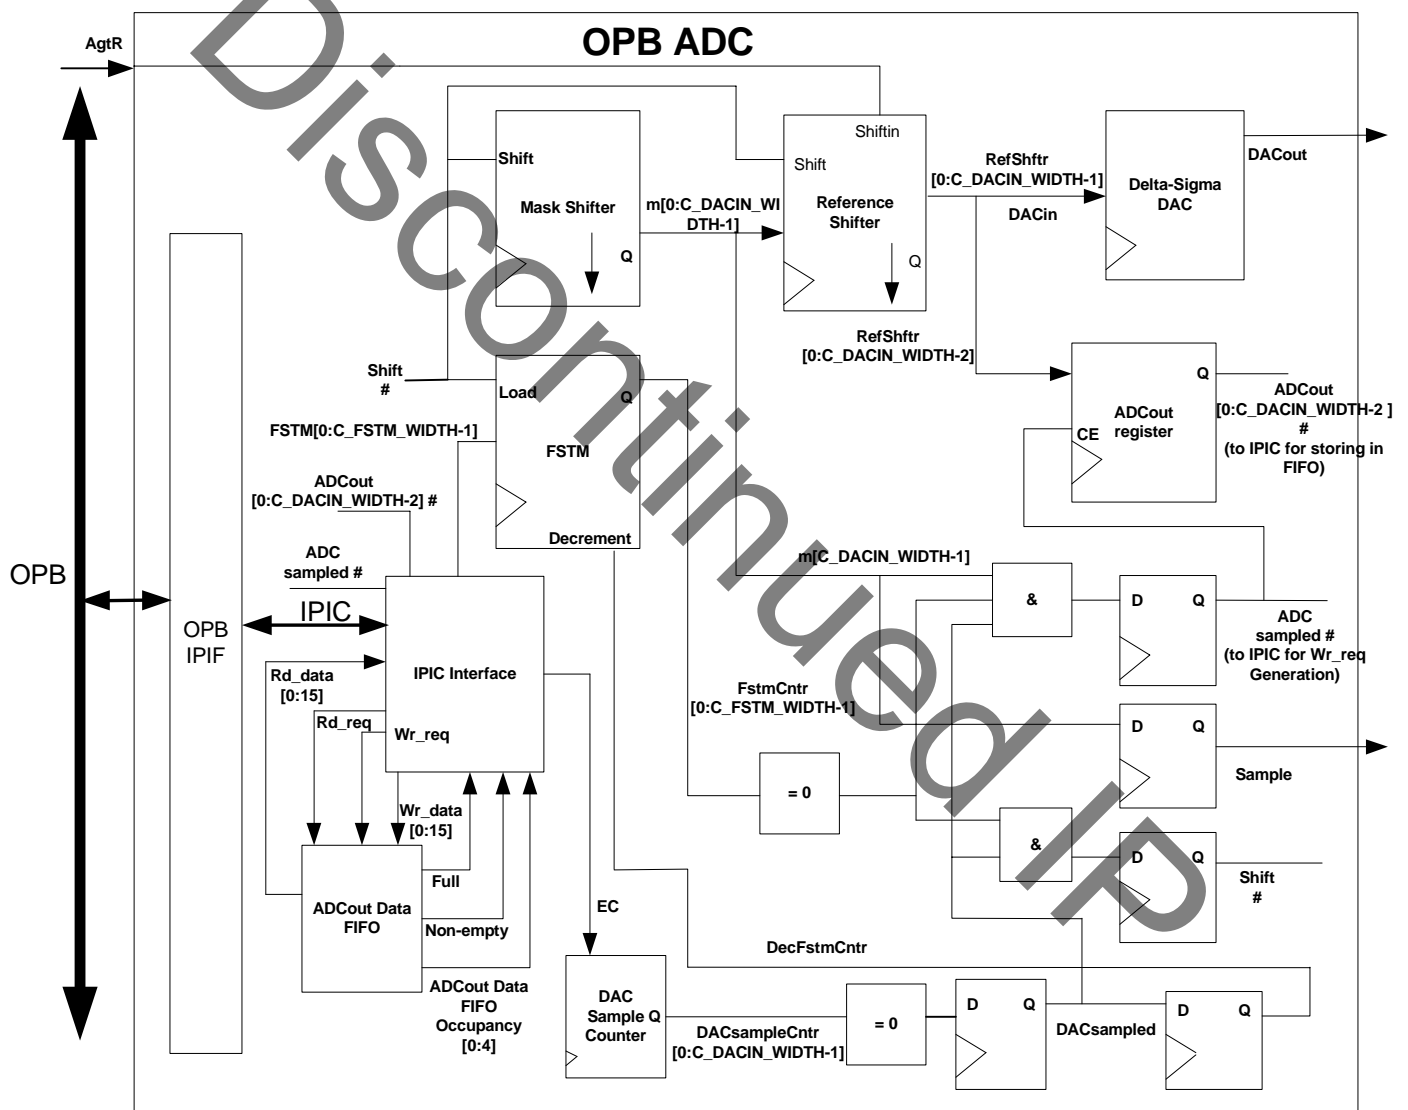

Figure 6: ADCout Data FIFO Occupancy Register (C_DACIN_WIDTH = 9)
6. The bit mapping is shown in Figure 6.
The ADCout Data FIFO Occupancy register contains the occupancy value of the ADCout Data FIFO. The value in this register is one less than the actual number of entries inside the ADCout Data FIFO. A zero value in this register when the Non-empty interrupt asserts indicates that there is one entry in the ADCout Data FIFO. A zero value in this register when the Non-empty interrupt negated indicates there are no entries in the ADCout Data FIFO. Figure 6 shows the location of Data Occupancy value in the 32-bit wide ADCout Data FIFO Occupancy register. OCCY bit definitions are shown in Table 10.